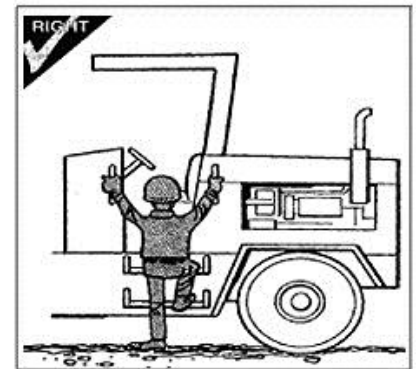

Figure. 1-6
1.3.4.5 Never climb onto or off the compactor while it is in motion. Use grips and steps to climb onto or off the machine. (Figure. 1-6) Never carry any passengers.